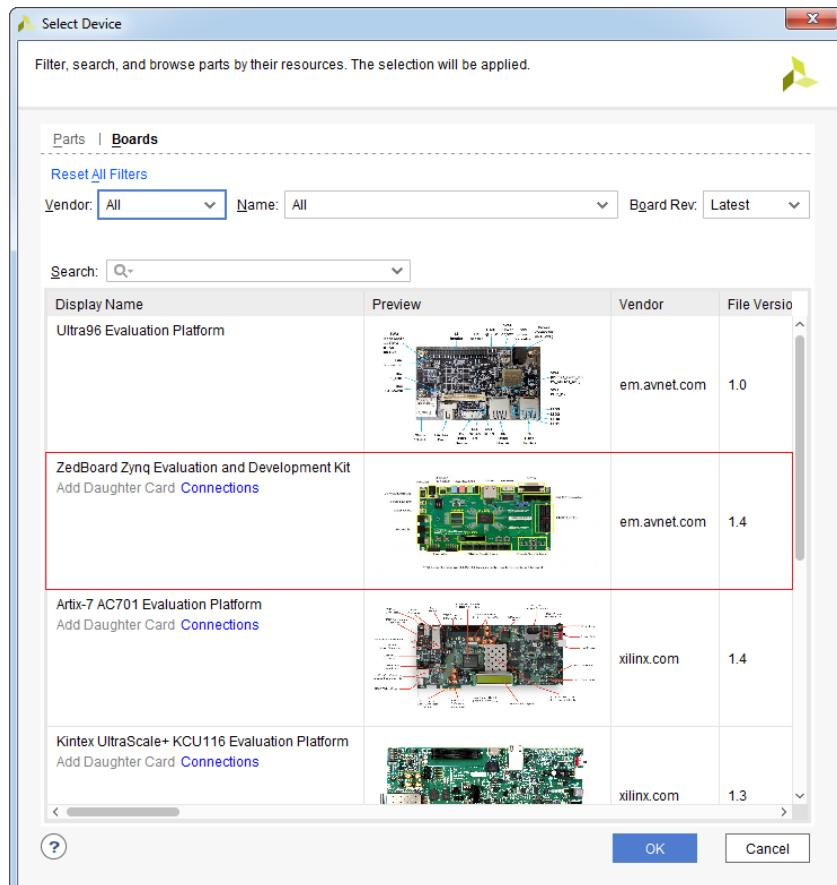

Figure 10.55: Select Device dialog box
- In the **Select Device** dialog box, choose **Boards** option, then select **ZedBoard Zynq Evaluation and Development Kit** and click **OK**, see Figure 10.55.